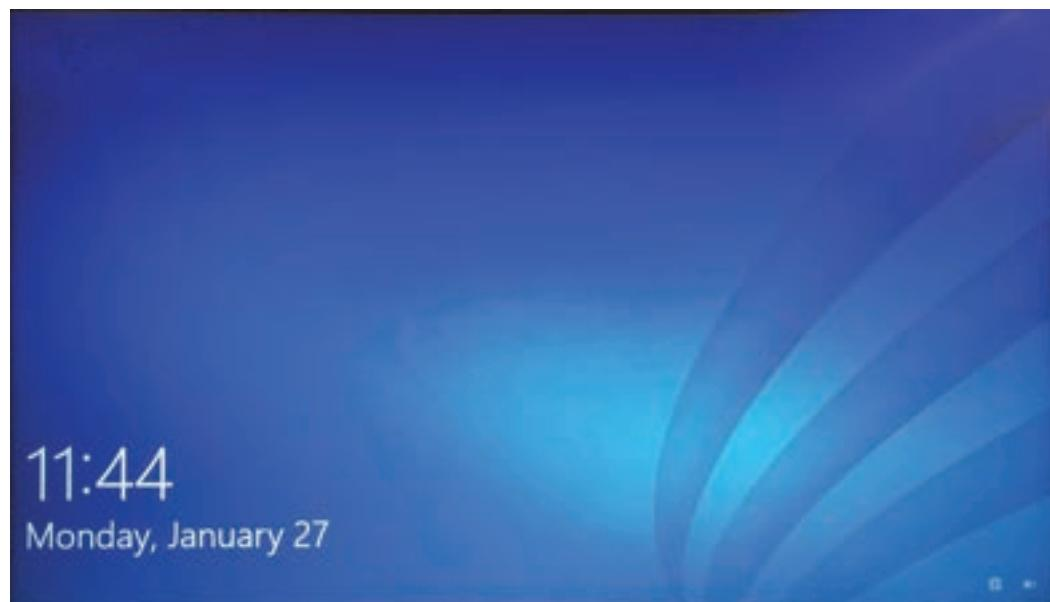

Figure 2-14. Windows 10 Lock Screen
- On Windows 10, the Windows Lock screen appears. See Figure 2-14. Click anywhere on the screen to display the Windows Account and Password screen. See Figure 2-16.